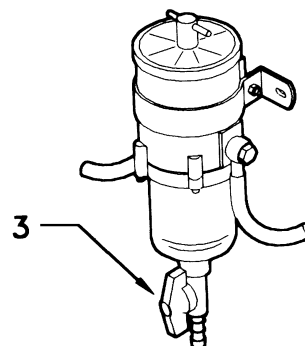

Fig. 7.6
Loosen the wing nut (3) (Fig. 7.6) located at the lower side of the glass vessel and let go all the accrued water. Shut again off the wing nut and check it does not drip.